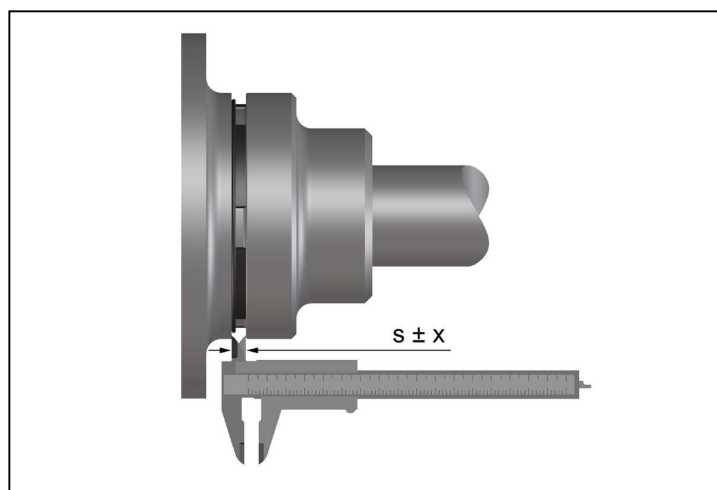

Fig. 9
- Measure the axial S gap measurement according to figure 9.